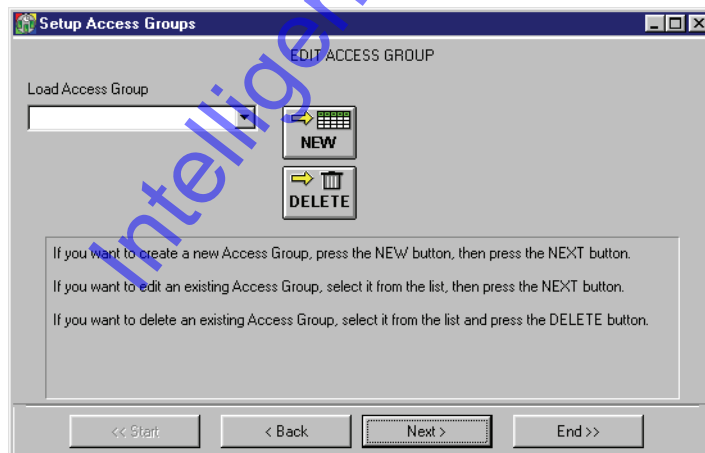

Figure 3-31: Edit Access Group
2. Click on the  button and the Edit Access Group window appears (see Figure 3-31).